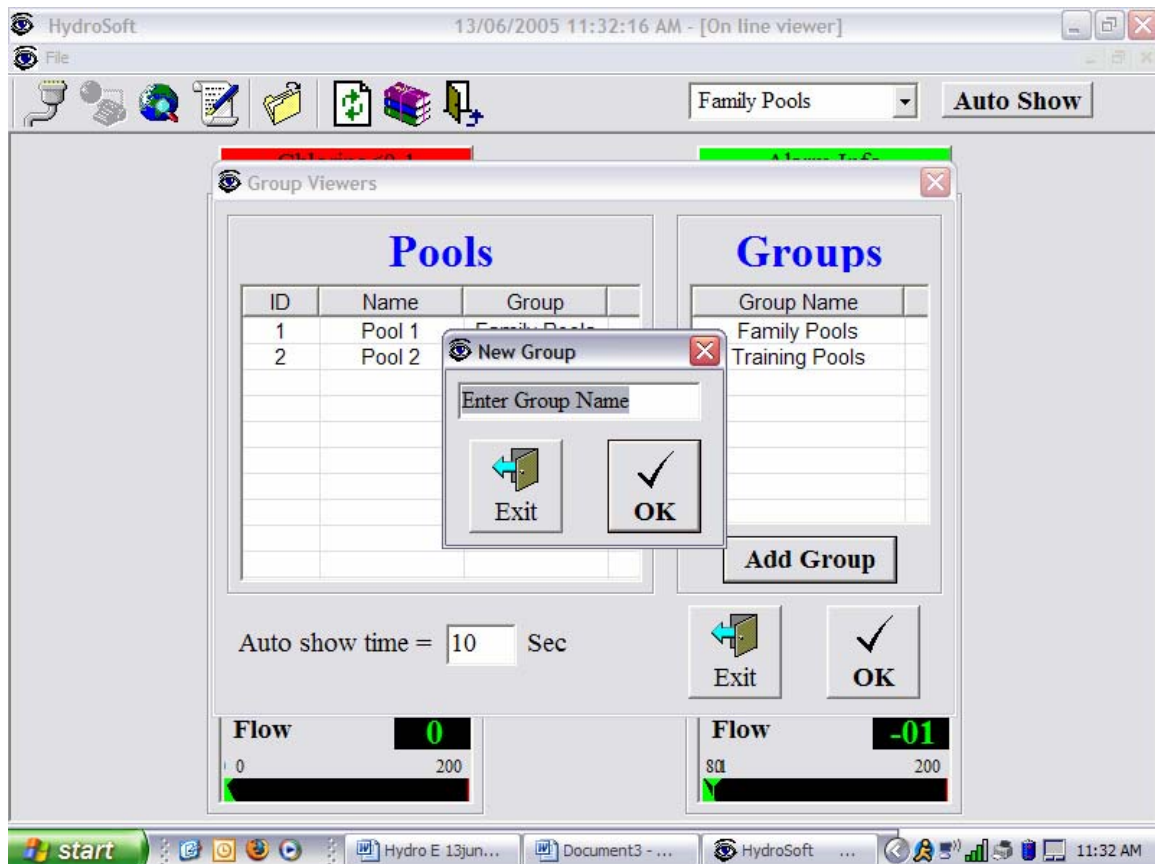

Figure 5: Initial Hydrosoft Screen at First Start Up
2. A window will appear with pool and group names (Figure 5)